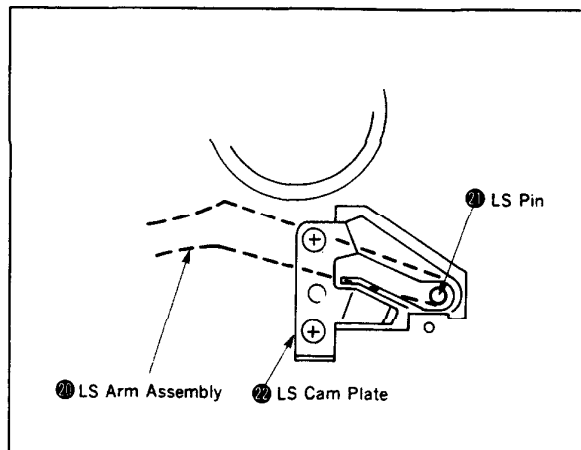

Fig. 18
Then, align the shafts ⑨ of the mechanical chassis With the four long joints of the LS chassis assembly ⑦, and put the LS pin ⑧ of the LS arm assembly ⑤ in the groove of the LS cam plate ⑩. (Fig.18)